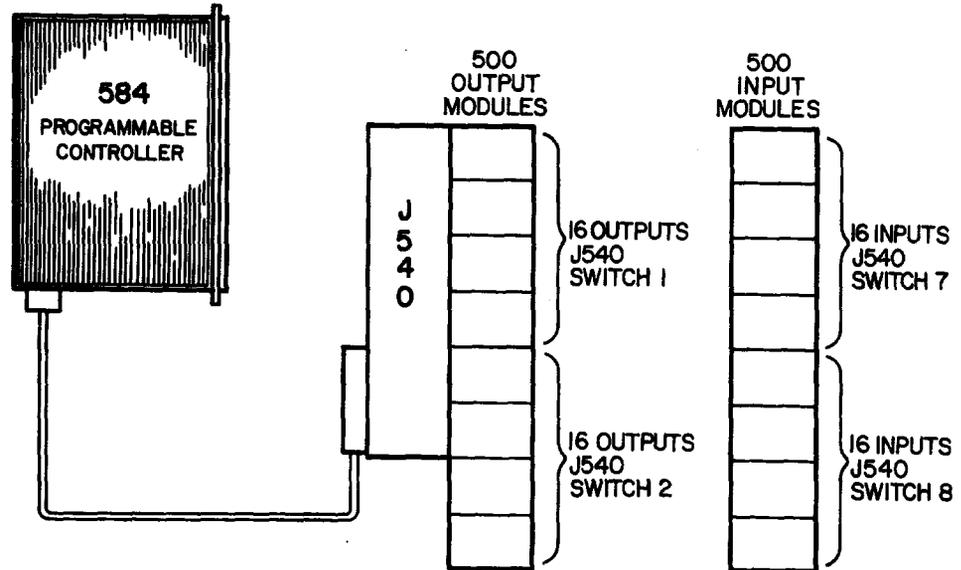

Figure 4-15. J540 Switch Settings
3. Set the J540's input and output switches prior to mounting. The 584L PC communicates with the J540 by sending or receiving 16 I/O points of information. Each J540 output switch enables a group of four output modules, each input switch enables a group of four input modules. Figure 4-15 illustrates typical switch settings for the J540 adapter.